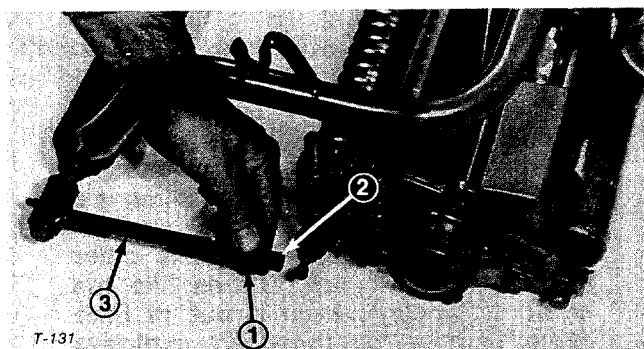

Figure 5
1. Loosen jam nut securing ball sockets to pull arms on both sides of the yoke (Fig. 5).
3. Align cutting unit with roller and driveshaft with transmission shaft and lengthen or shorten pull rods by threading ball socket on rod (Fig. 5).